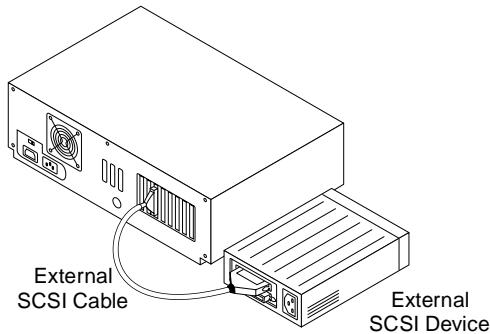

Figure 2-9. External Cable to External SCSI Device
- 2** Attach the connector at the other end of the external cable to either one of the SCSI connectors on the external SCSI device, as shown in Figure 2-9.